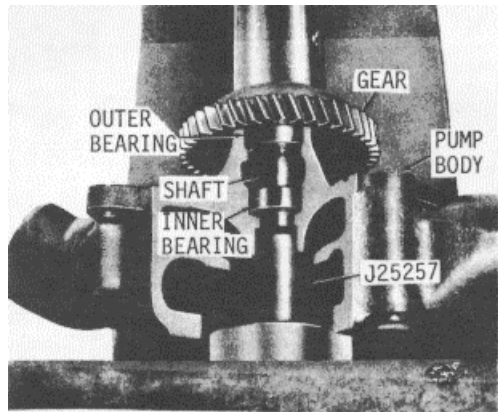

Fig. 6 Pressing Gear on Pump Shaft
- (2) Support the pump body on the bed of an arbor press with the cover side down. Then press the shaft and bearing assembly in place by applying pressure on the outer race of the large bearing.
- (3) Install the bearing retaining ring.
- (4) With gear installer J 25257 (Fig. 6) positioned on the impeller end of the shaft, place the gear between the shaft and the ram of the press. Press the gear on the shaft so it is flush with the end of the shaft. Important: Tool J 25257 will hold the shaft vertically to ensure the gear is pressed squarely on the shaft.
- (5) Apply a film of engine oil to the sealing lip of the oil seal and the lip contact surface of the shaft. Then insert the seal into the pump body. With a suitable sleeve, tap the seal into place.